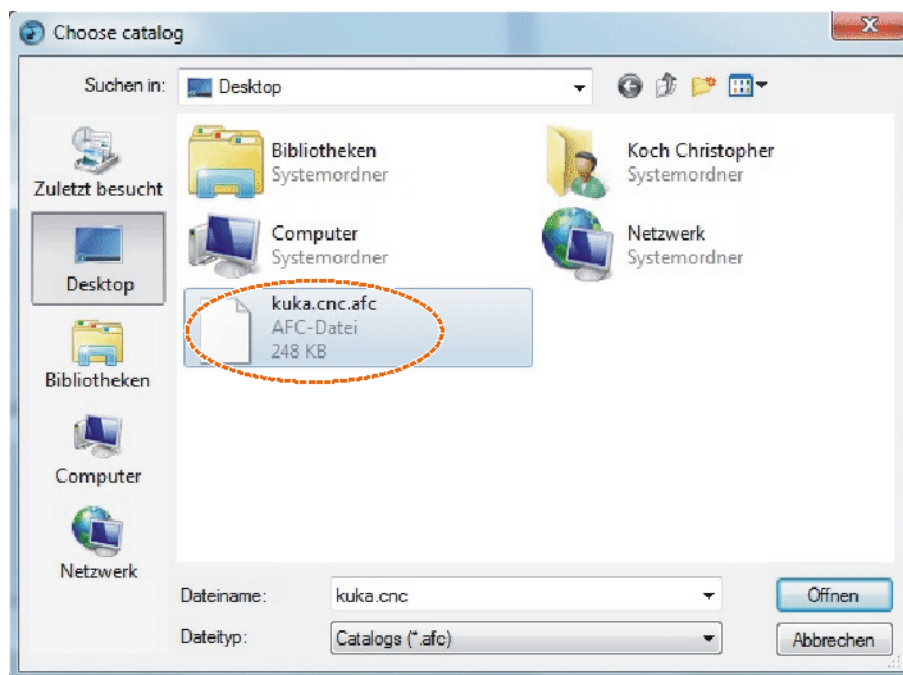

Fig. 6-6: Selecting and opening catalog element
6. Select the CNC catalog element and click on **Open** (>>> Fig. 6-6).